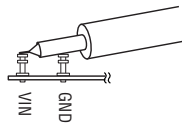

Figure 2. Measuring Input or Output Ripple
**NOTE:** When measuring the input or output voltage ripple, care must be taken to avoid a long ground lead on the oscilloscope probe. Measure the output (or input) voltage ripple by touching the probe tip and probe ground directly across the +Vout and –Vout (or +Vin and –Vin) terminals. See Figure 2 for proper scope probe technique.